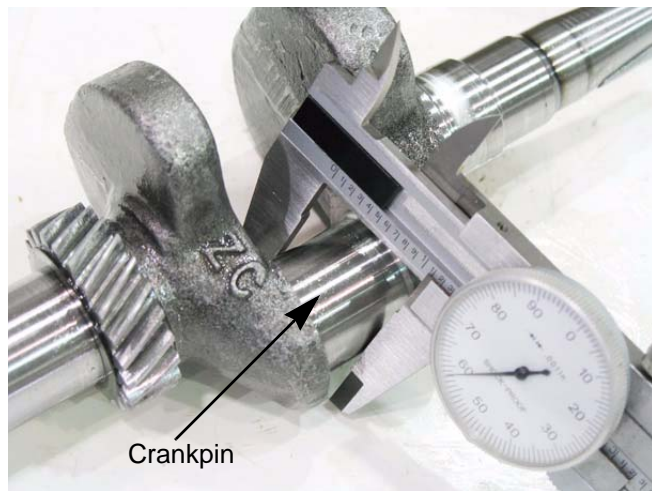

Figure 10.9
2. Measure the journals at the bearing contact points using a vernier caliper or a micrometer. See Figure 10.9.